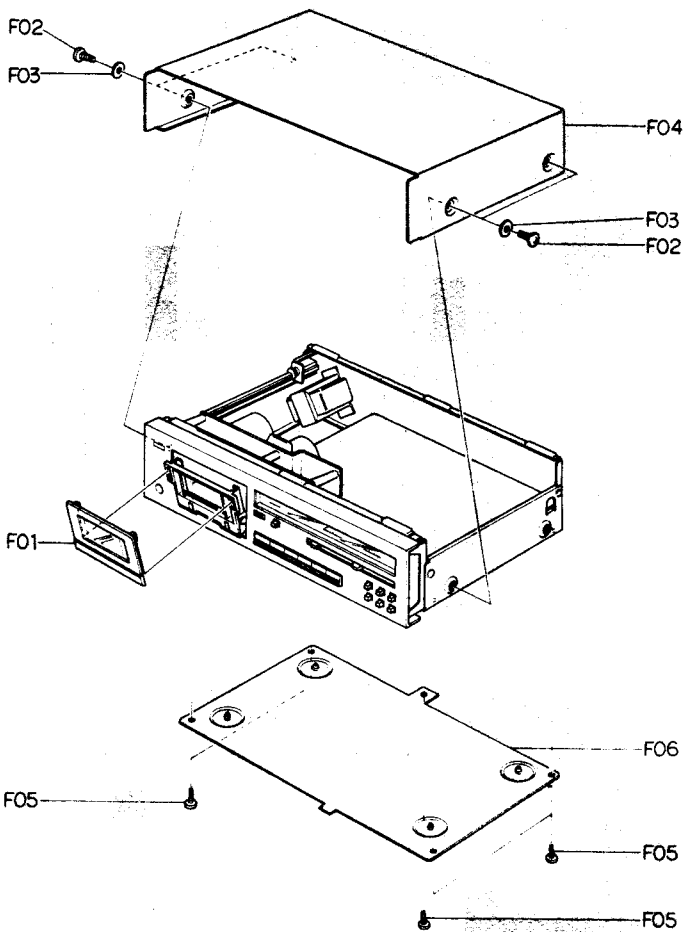

Fig. 3.1
Refer to Fig. 3.1.
- (1) Refer to Fig. 3.1. Remove Top Cover Ass'y and Bottom Cover Ass'y referring to items 3.2 and 3.3.
- (2) Pull out F01 (Volume Knobs).
- (3) Remove F02 (Power Switch Joint Bar) by releasing the self-interlocking pin of the Power Switch, and turn F02 (Power Switch Joint Bar) by 90° either clockwise or counterclockwise, then disassemble F02 (Power Switch Joint Bar) from the Power Switch Knob Ass'y.
- (4) Remove F03, then disassemble F04 (Front Panel Ass'y).
- (2) Remove F01, F02 and F03, then disassemble F04 (Rear Panel Ass'y).
- (3) Remove F05 and F06, then disassemble F07 (Power Transformer).
- (4) Remove Power Switch Joint Bar by releasing the self-interlocking pin of the Power Switch Joint Bar from Power Switch and F08, then disassemble F09 (Power Switch Holder Ass'y).
- (5) Remove F10, then disassemble F11 (Power Switch).